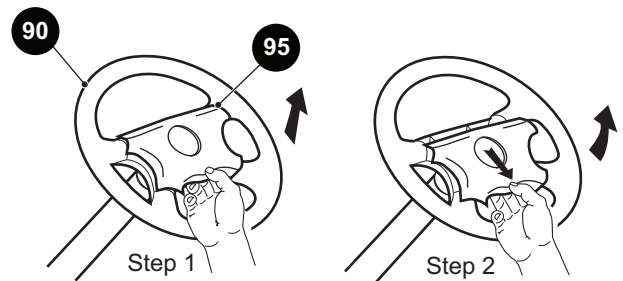

Fig. 19 Steering wheel cover Removal
- From the front side of the steering wheel (90), pull straight up on the bottom of the steering wheel cover (95) to release the two bottom retaining tabs.
- Using a thumb for leverage as shown, reach from behind the steering wheel with fingertips to first pull down, and then push up to release the two top steering wheel cover retaining tabs (Ref Fig. 19).